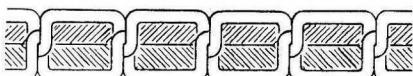

Fig. 10
- a. When tensions of needle (upper) thread and bobbin (lower) thread are properly adjusted, stitches on both sides of fabric will look alike (Fig. 10). Both threads will be locked in the center of the fabric thickness, and no adjustment is necessary.